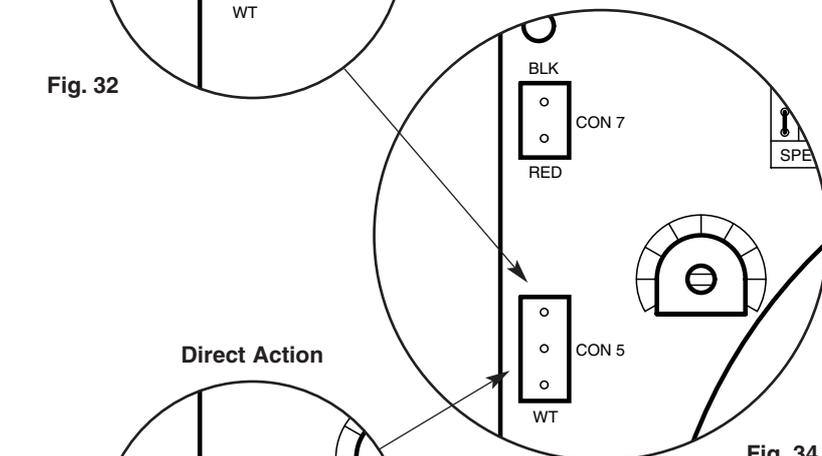

Fig. 34
a) Push the red/black connector on to the pins marked CON 7 (Fig. 34). Ensure that the wires correspond with the colours marked on the board. The unit will not operate if connected in any other way.